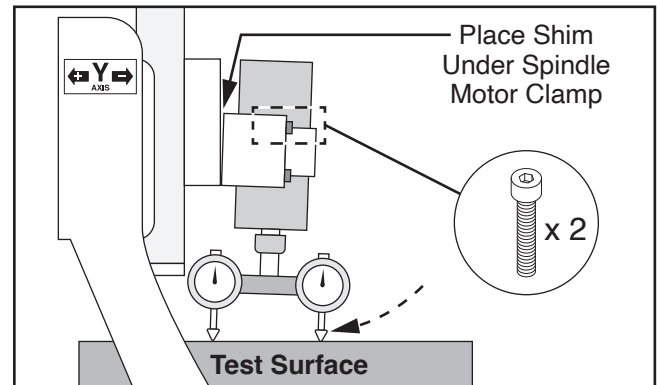

Figure 76. Example of shimming spindle motor clamp with upper cap screw set loosened.
- If indicators show different values, loosen (1) set of upper or lower cap screws on spindle motor clamp a full turn and place shim(s) under clamp in desired direction of movement until indicators display matching values (see **Figure 76**), then tighten cap screws and proceed to **Step 8**.